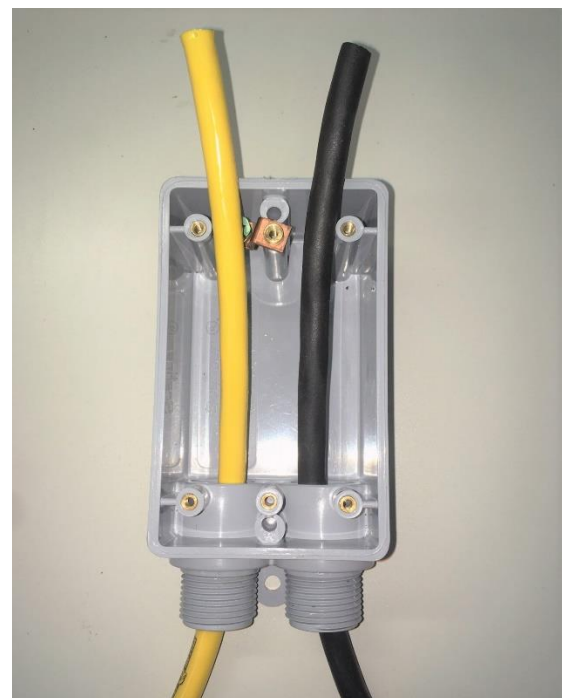

Figure 8. APU cable and block heater cord routed to device box.
10. Route the inner cable to the location of the receptacle box. Pass the cable through the bottom of the receptacle box and cut to length allowing at least 5" of cable to extend out of the box. See figure 8.